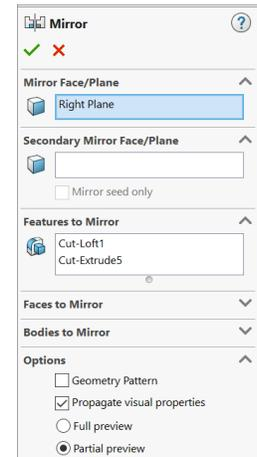

Fig. 83
Step 3. In the Mirror Property Manager click OK , **Fig. 83**.